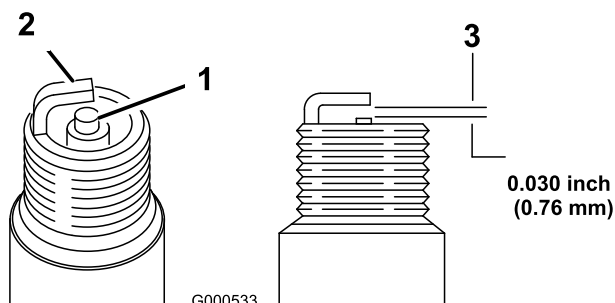

Figure 50
- Look at the center of the spark plugs (Figure 50).
- Check the gap between the center and side electrodes (Figure 50) and bend the side electrode, if the gap is not correct.